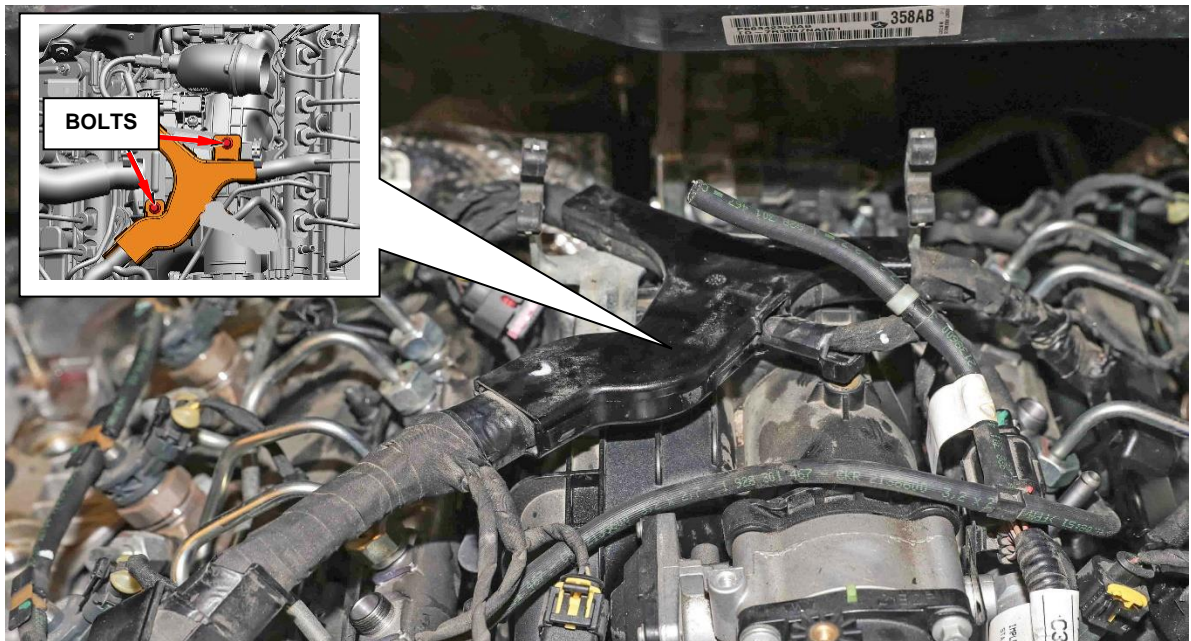

Figure 18 – Wire Harness Loom
21. Remove the bolts (2) securing the wire harness loom (Figure 18).
7. Install the engine wire harness assembly to the intake manifold and push down to seat the wire harness retainers, and tighten the bolts to 11 N·m (8 ft. lbs.) (Figure 18).